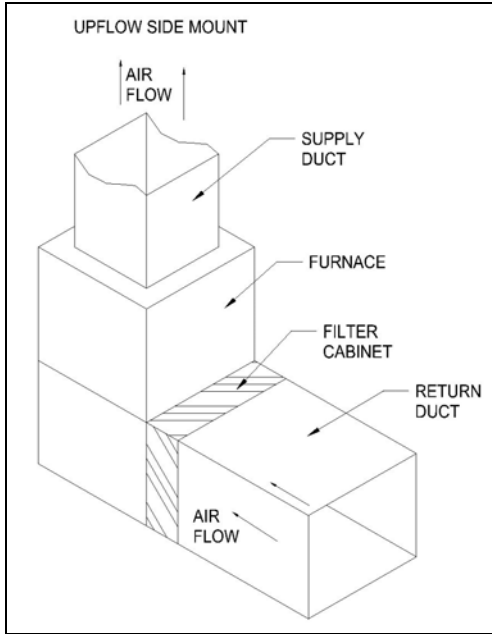

Figure 1
1. Refer to the typical mounting positions (Figures 1 to 5) for proper placement of the filter cabinet.
4. Position cabinet so access panel is available for easy media filter replacement. The access panel **MUST** be accessible to remove and replace the media filter. (**Note:** Minimum of twenty-six (26) inches for front clearance).
5. Position the filter cabinet onto return air side of the appliance (Figures 1 to 5). Duct transitions may be required to properly mount the filter cabinet.